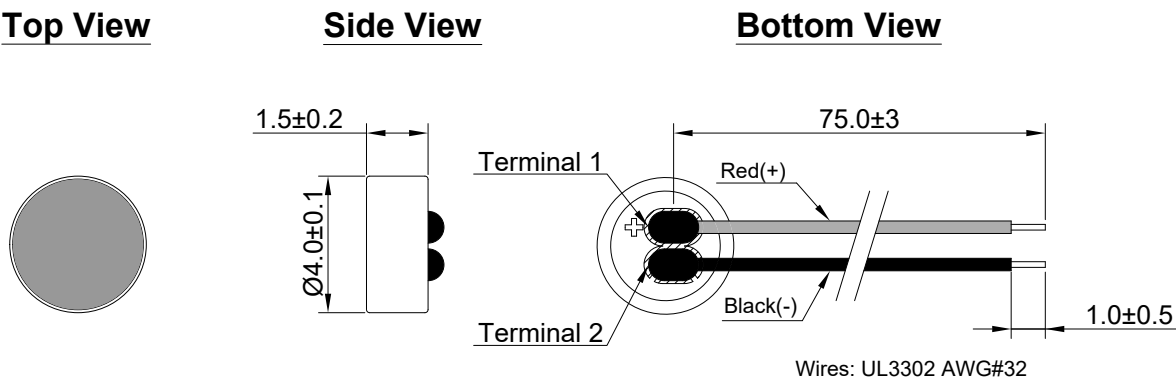

Figure 4. HBO0403D-58/1208 Mechanical Layout
4.3.1. Layout and Dimension : See section 6, figure 4